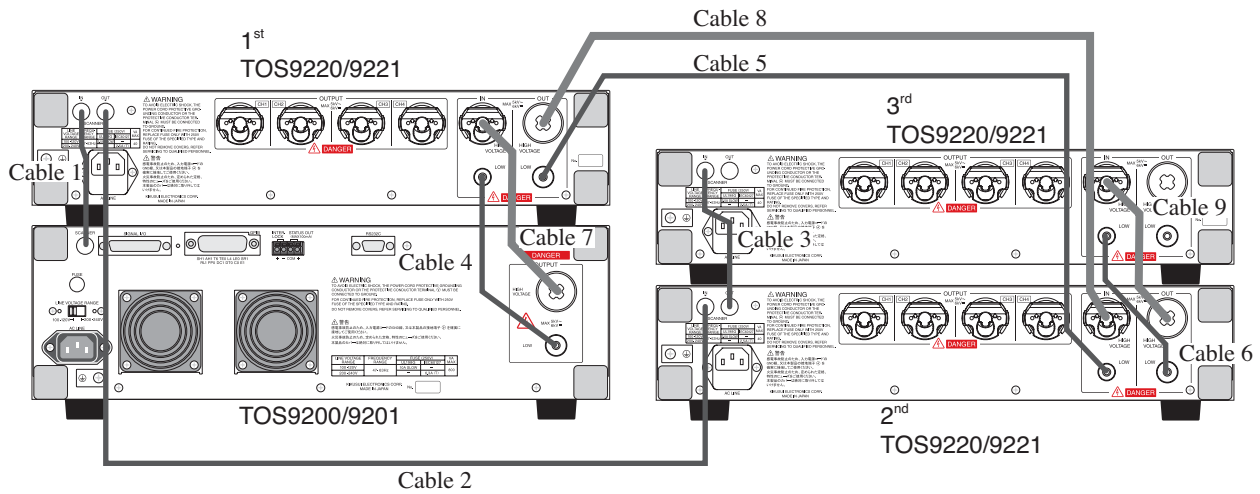

Fig.3-1 Connection of Three Scanners to the Tester Proper
The TOS9200/9201 tester assigns channel numbers to the TOS9220/9221 scanners, treating the scanner directly connected to the tester proper via the interface cable as the first one, followed by that next closest to the tester proper, and so on. See Fig. 3-1.
The following provides an example involving the connection of three TOS9220/9221 scanners to the TOS9200/9201 tester. See Fig. 3-1 and Table 3-2.
- When connecting four TOS9220/9221 scanners, connect the 4th scanner to the 3rd scanner in the same way as the 1st and 2nd scanners and the 2nd and 3rd scanners in Fig. 3-1.
Table3-2 Cables to be Used in the Connections in Fig. 3-1